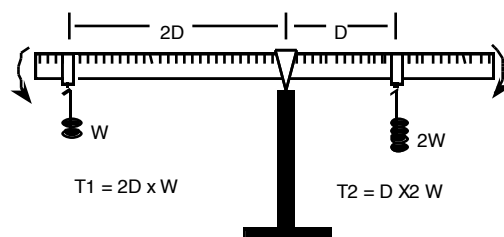

Figure 1
The **center of gravity** of an object is the average position of its weight. The force of gravity on the entire object can be considered to act at this point. For instance, the center of gravity of a uniform meter stick would be at its midpoint (the 50-cm mark). In this experiment you will observe and calculate the torque produced by objects suspended from a meter stick supported at its center of gravity (see Figure 1).
4. Slide the knife edge clamp onto the meter stick so that the screw adjustment is at the **bottom edge** of the meter stick (refer to Figure 1). Slide the clamp until it is near the 50-cm mark.